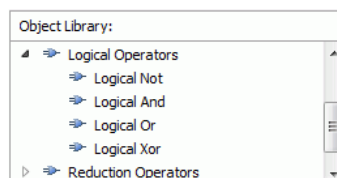

Figure 20. Select the Logical Or operator from the Object Library window and drag this into the editing window.
5. We now need to add the necessary logical operators to our circuit. We will need an OR gate as well as three edge level detectors. To access the OR gate, click on the plus sign next to Logical Operators in the Object Library and select Logical Or, as in Figure 20. Then drag and drop the operator into the editing window.